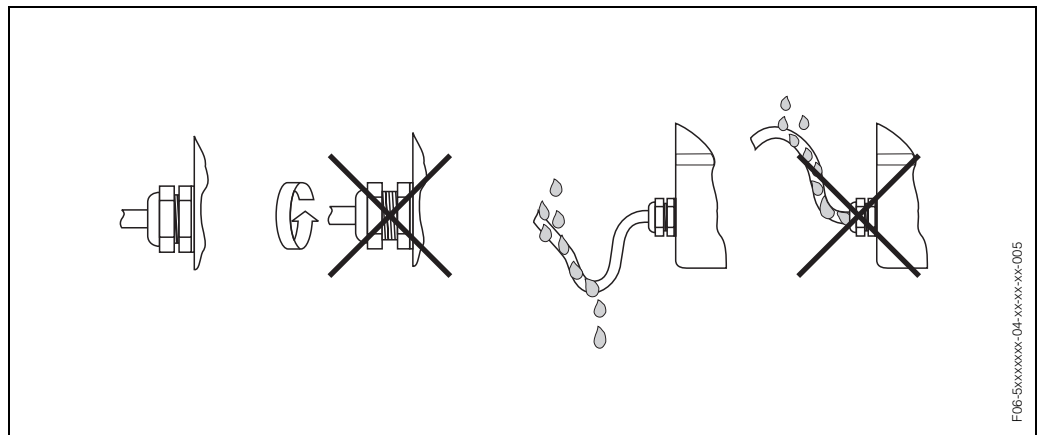

Fig. 40: Installation instructions, cable entries
- Firmly tighten the cable entries (Fig. 40).
- The cables must loop down before they enter the cable entries ("water trap", Fig. 40). This arrangement prevents moisture penetrating the entry. Always install the measuring device in such a way that the cable entries do not point upwards.